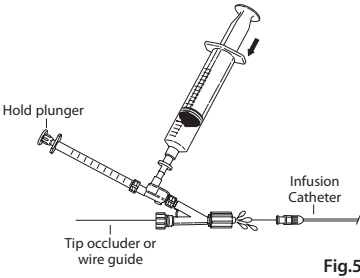

Fig.5
7. To attach the dual check valve and Tuohy-Borst adapter to the infusion catheter, loosen the Tuohy-Borst valve and slide the assembly over the tip occluder. Before attaching the assembly to the catheter, hold the 1 mL syringe plunger stationary and depress the 20 mL syringe, making sure all air is purged from the assembly. Leave a meniscus of solution on the Luer lock fitting of the Tuohy-Borst adapter before connecting to the infusion catheter. **(Fig. 5)**